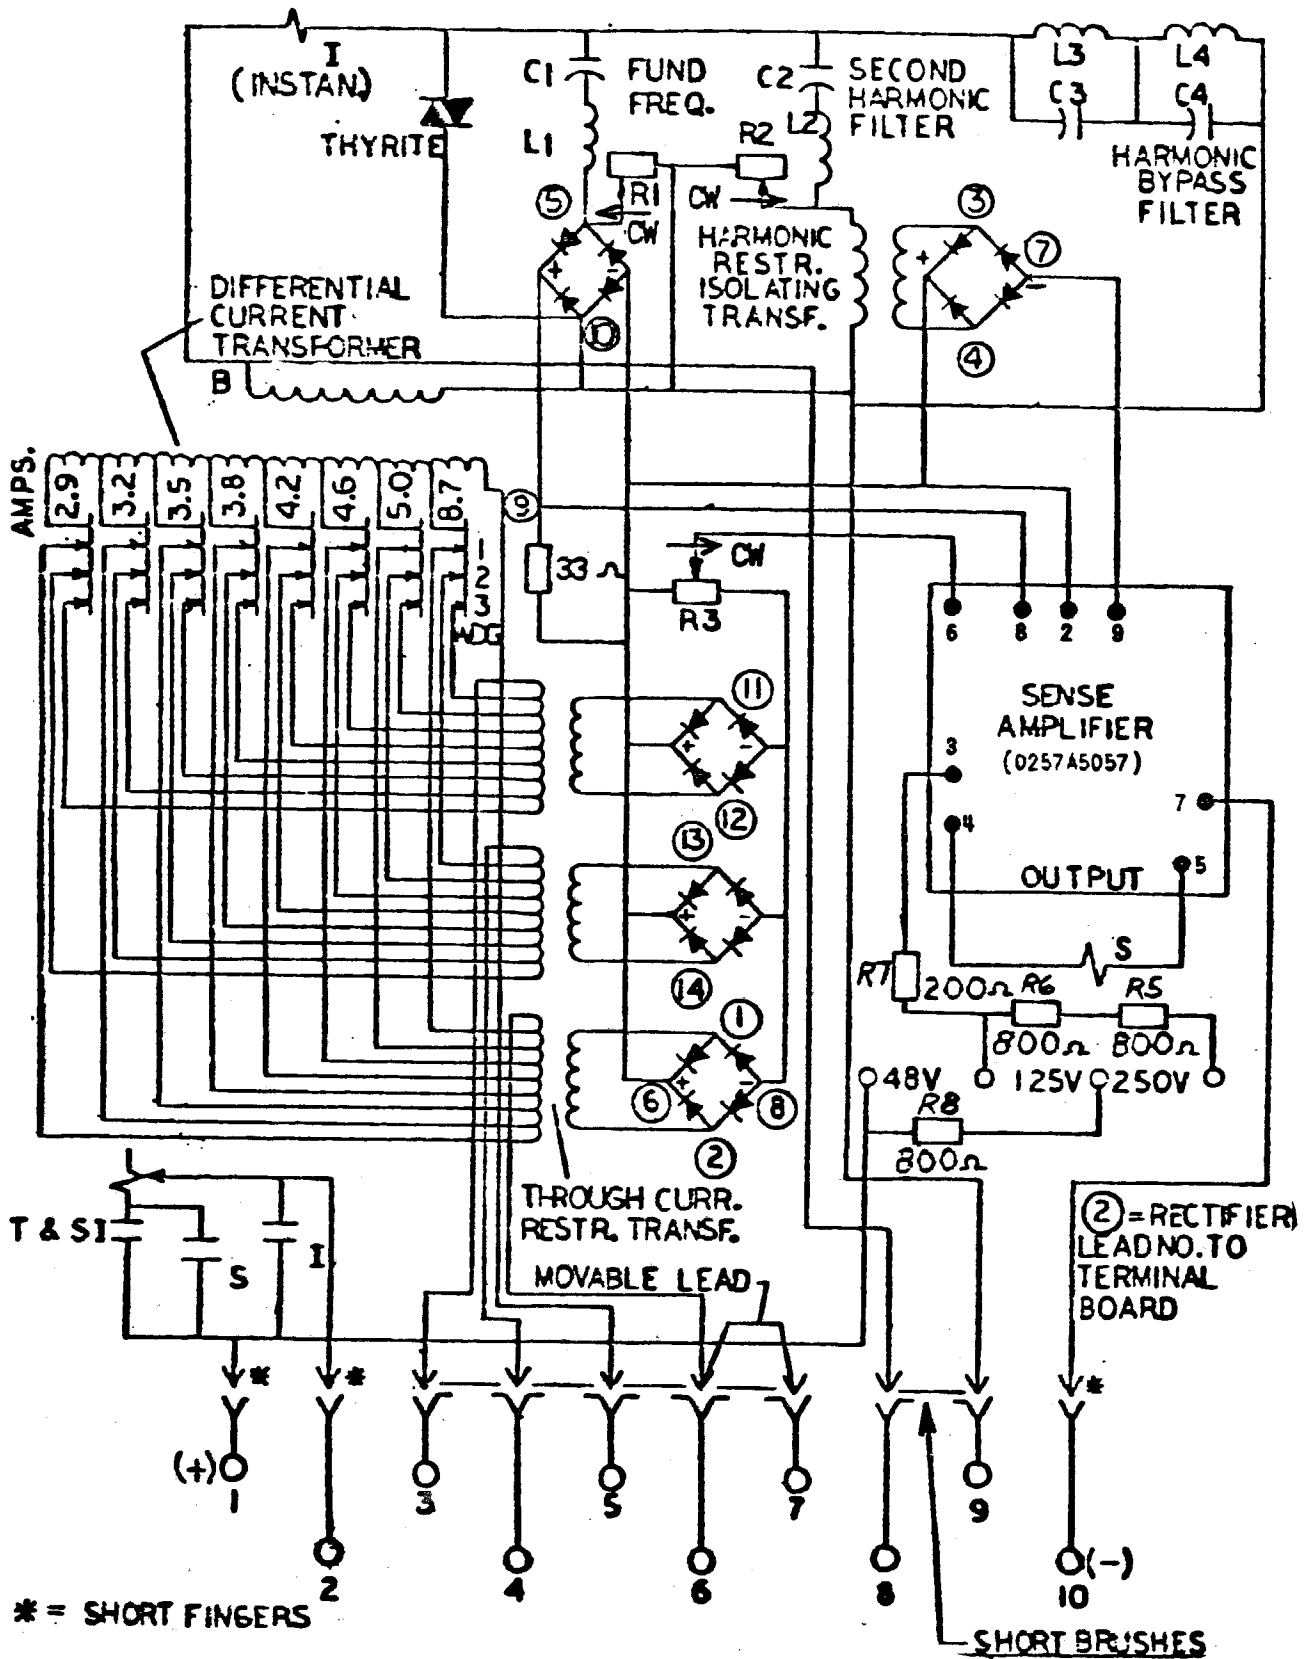

Figure 2 (0285A6750-0) Internal Connections Diagram for the Type STD99AC Relay (Front View)
- Figure 2 - illustrates the internal connections diagram for the Type STD99AC relay.